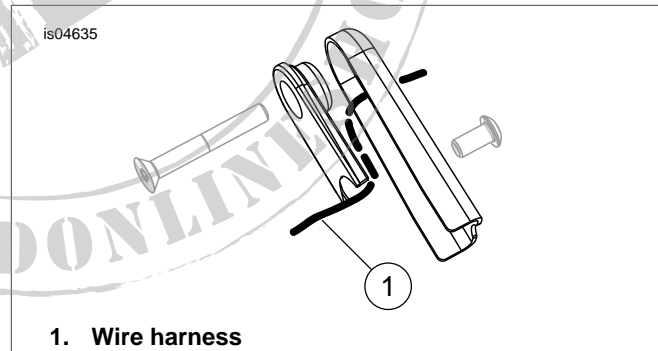

Figure 6. Wire Harness Routing
1. See Figure 6. Feed turn signal wiring and connector through middle hole in turn signal relocation bracket and under rear of fender support.